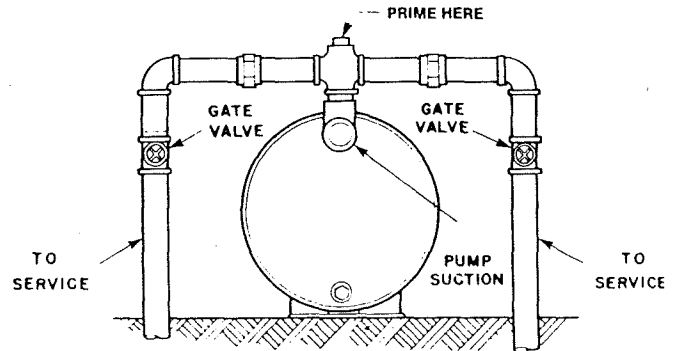

Figure 8—Multiple Discharge
Pump discharge can be divided to supply two (2) or more sprinkler systems. A suggested multiple discharge to service is shown in Figure 8.